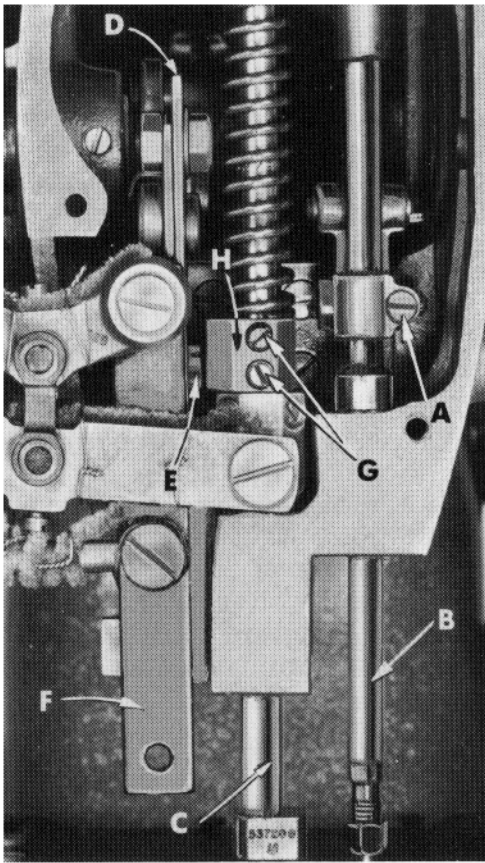
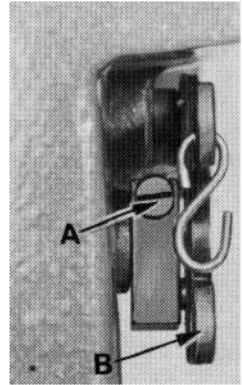

Fig. 3
Fig. 12
The height of the needle is correct when the top of its eye is $\frac{1}{64}$ inch below the underside of the looper, when the looper point is flush with the left side of the needle. If adjustment is necessary, loosen screw (A, Fig. 3) and move needle bar (B) up or down as required and retighten screw (A).
If adjustment is needed, loosen tension release lever screw (A, Fig. 12), located at the back of the machine and move tension disc separator as required. Retighten screw. After adjustment there should be no binding at any point.
The height of the presser bar (C, Fig. 3) is set correctly if it is possible to remove the presser foot when the foot lifter lever (B, Fig. 12) is fully depressed.
If adjustment is necessary, turn handwheel in operating direction until the needle bar is in the low position. Loosen screws (G, Fig. 3), then, while holding presser foot down on the throat plate surface, pry up presser bar connection and guide (H) with a screwdriver to obtain the 1/16 inch setting and retighten screws.